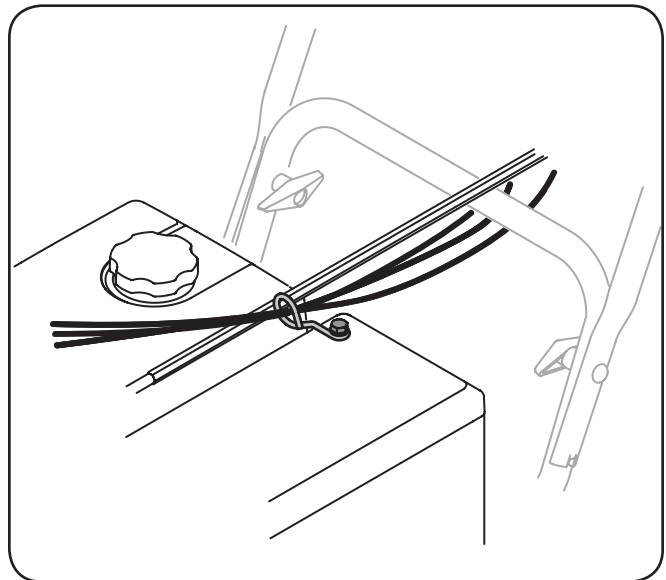

Figure 3-10
- Check that all cables are properly routed through the cable guide on top of the engine. See Figure 3-10.